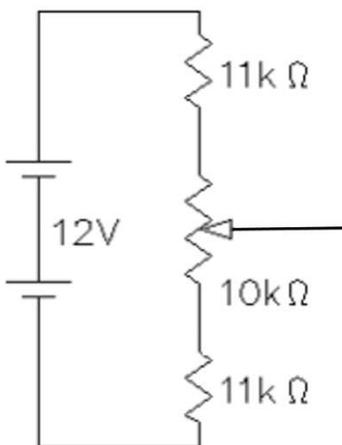

Fig. 7 A circuit with a resistor both before and after a potentiometer.
6. **Another** way of solving this problem is to add a resistor both before and after the potentiometer, as shown in the circuit of Fig. 7. How would the voltage vary between the lower and middle terminals of the potentiometer with this arrangement? Provide a voltage range as the wiper of the potentiometer is varied from is to 10 kΩ. (2pts)